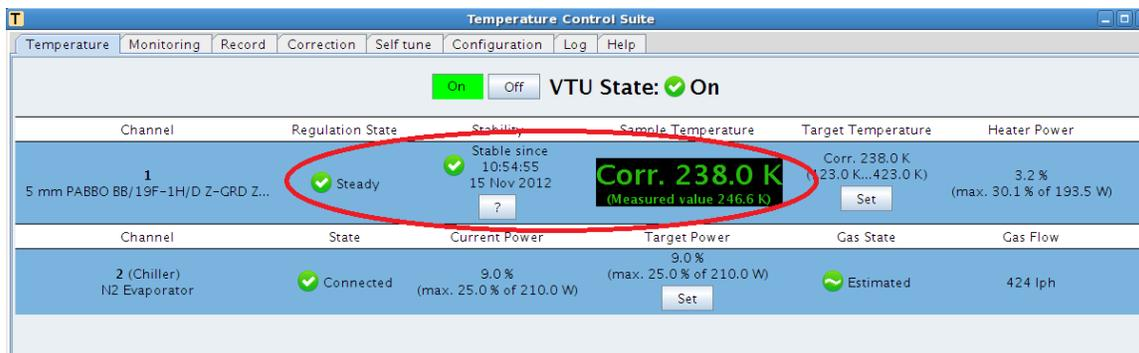

Figure 23: Target Low Temperature Achieved
- When the sample temperature reaches to the target temperature (indicated with a check marker of the Regulation State, show in Figure 23), do an automatic shimming by type *topshim* in the command line.